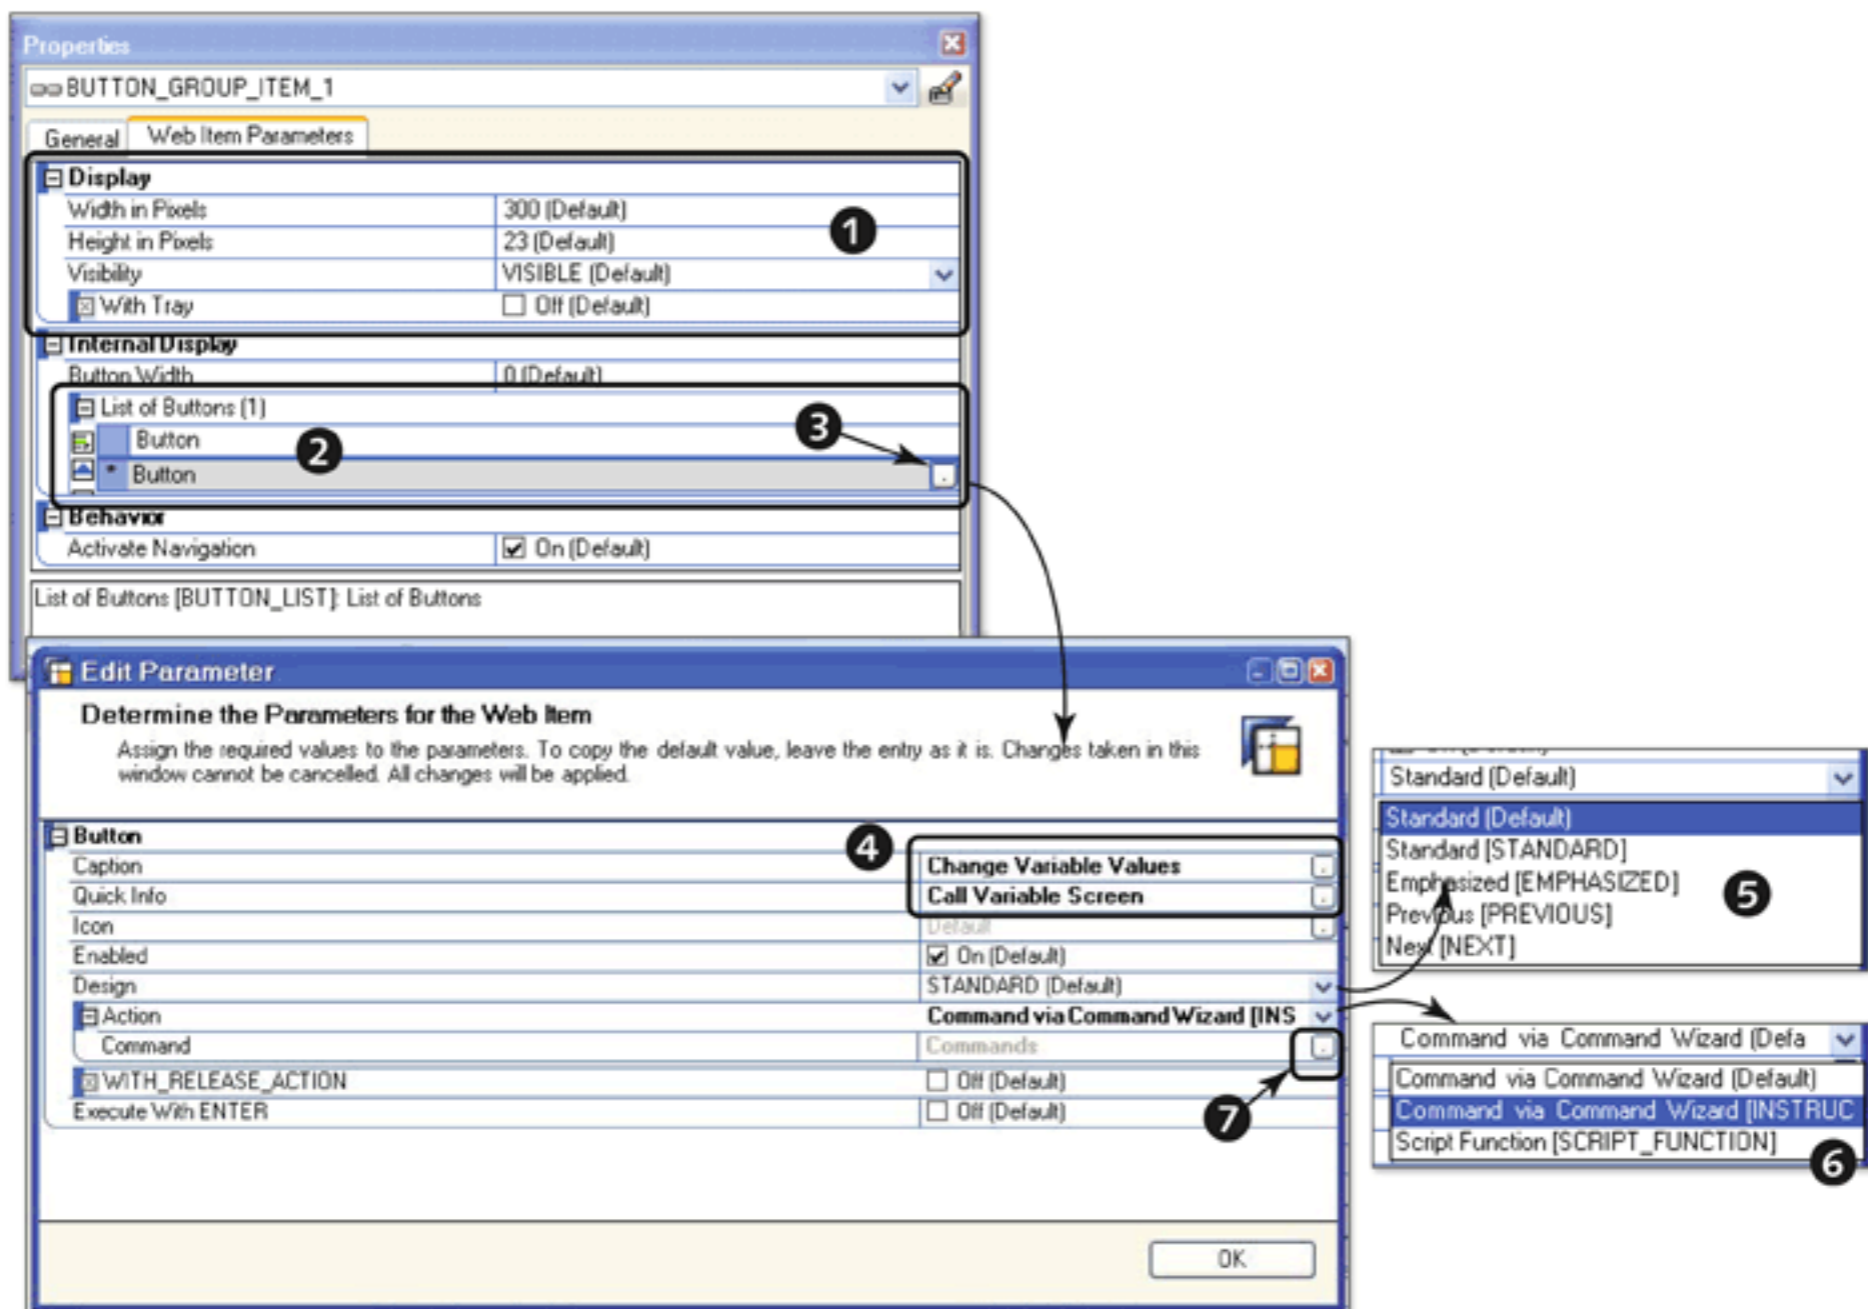

Figure 11.12 Maintain Button Group/Add a Button
Apart from maintaining the display settings for the button group (❶ of Figure 11.12), you must define a button (or multiple buttons) on this screen (❷).
To add a button, click on the button shown in ❸ of Figure 11.12. THE EDIT PARAMETER box appears, in which you define the button settings (❹). You also have to select one of the available button designs (❺).
Now that you've configured the button, the next step is to assign an action to it. You can either assign a command from the already available set of commands, or you can assign a custom JAVASCRIPT function to the button. We have to assign an action that will call the variable screen. This command is available in the Command Wizard, so select COMMAND VIA COMMAND WIZARD as the ACTION, as shown in ❻ of Figure 11.12. Click on the button shown in ❼ of Figure 11.12 to call the Command Wizard.